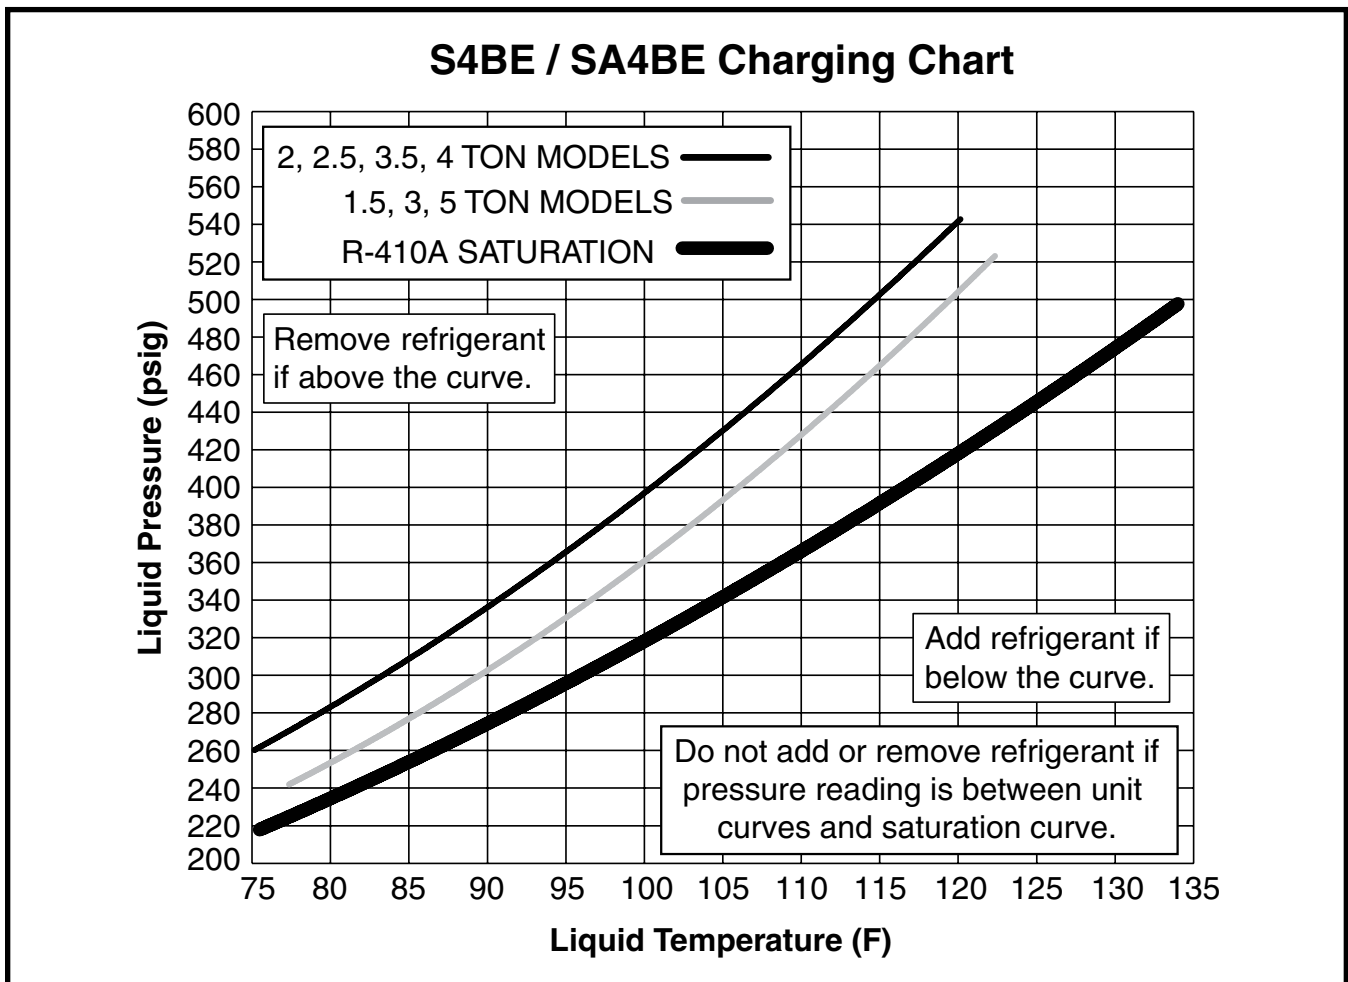

Figure 3. Charging Chart for 2 - 5 Ton Units
- Refrigerant charging charts are applicable only to matched equipment and listed airflows for the indoor coil. Refer to Figure 3, \(page 8\) for correct system charging.
3. Determine the required liquid refrigerant pressure from Figure 3, \(page 8\).
- Before using this chart, make sure the unit is in a stable operating mode. As shown in Figure 3, \(page 8\), the ideal system sub-cooling can vary over the range of operation. Reference the charts to determine the ideal amount of sub-cooling for a given liquid pressure. Units charged to other values will not perform at the rated unit efficiency (EER) or rated Coefficient of Performance (COP) in heating mode.